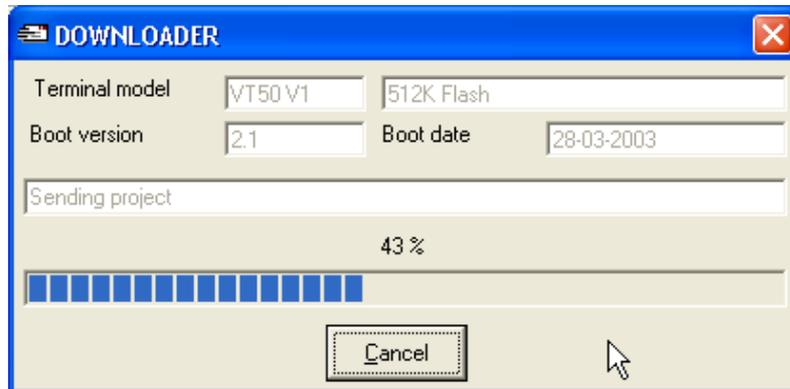

Fig. 39.
3.41 The *DOWNLOADER* window will appear temporarily and when the download is completed it will disappear. See Fig. 39.